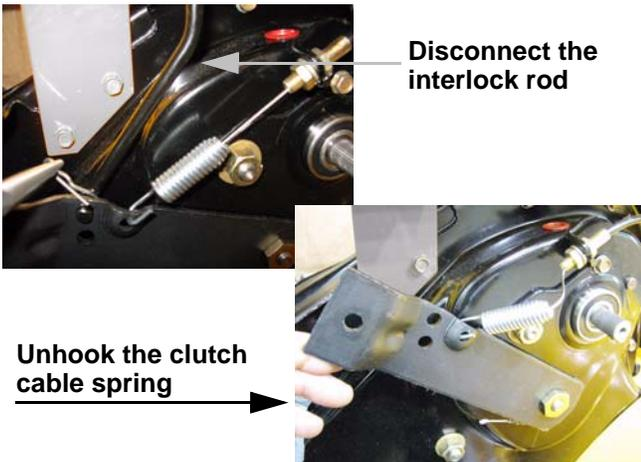

Figure 2.10
5. The spring on the end of the clutch cable can be unhooked from the arm. See Figure 2.10.